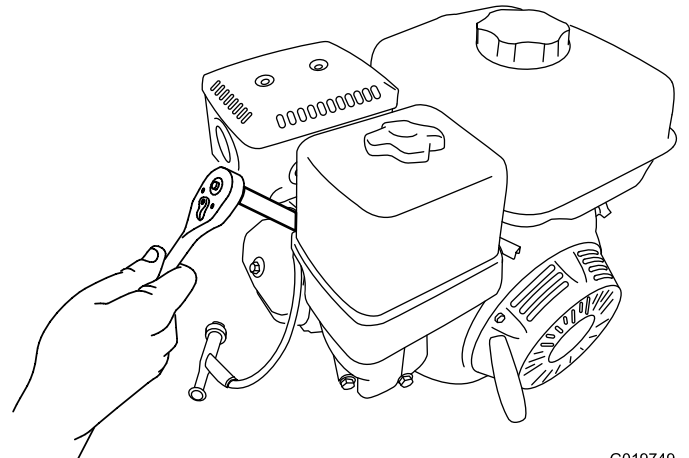

Figure 45
5. Rotate the spark plug counterclockwise using the designated spark-plug wrench to remove the plug and the sealing washer (Figure 45).
2. Rotate the spark plug clockwise using the designated spark-plug wrench until the plug and sealing washer are seated (Figure 45).